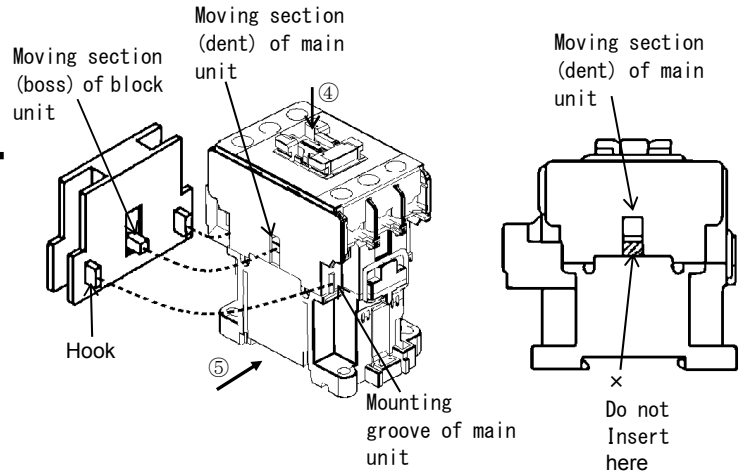

Fig. 2
(2) Side mounting type (Fig. 2)
- When mounting, insert the moving section(boss) of the block unit into the moving section(dent) of the main unit while pressing the moving section of the main unit in the direction of ④. Insert the block unit in the direction of ⑤ until the hook of the block unit is caught in the mounting groove of the main unit. After mounting, press the moving section of the main unit to ensure that the block unit moves smoothly.